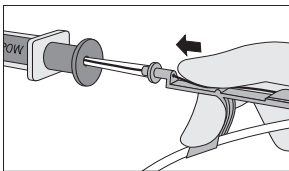

Figure 6
- If using Arrow Advancer, raise thumb and pull Arrow Advancer approximately 4 - 8 cm away from Arrow Raulerson Syringe or introducer needle. Lower thumb onto Arrow Advancer and while maintaining a firm grip on guidewire, push assembly into syringe barrel to further advance guidewire (refer to Figure 6). Continue until guidewire reaches desired depth.